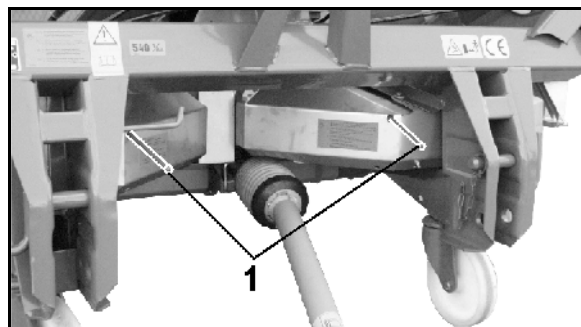

Fig. 22
- **electronically** with the on-board computer. In this case, dosing sliders (Fig. 22/2) operated by setting motors (Fig. 22/1) release a range of different diameters at the outlet openings (Fig. 22/3).
- **manually** via the setting lever (Fig. 22/6) by adjusting a range of different diameters at the outlet openings (Fig. 22/3). The respectively required slider position is determined either in accordance with the **setting chart** or with the **calculating disc rule**.
The slide gates (Fig. 22/4) serve to open and close the outlet openings and can be separately actuated hydraulically, depending on equipment (Fig. 22/5) via